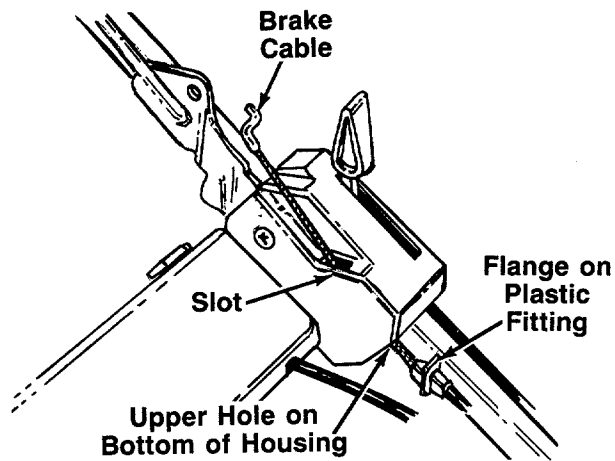

FIGURE 4.
5. Route the brake cable under the lower handle. Place the end of the brake cable into the upper hole on the bottom of the control housing, and through the slot in the side of the housing as shown in figure 4. The angle of the flange on the plastic fitting must be positioned downward as shown. Be careful not to bend or kink the cable.